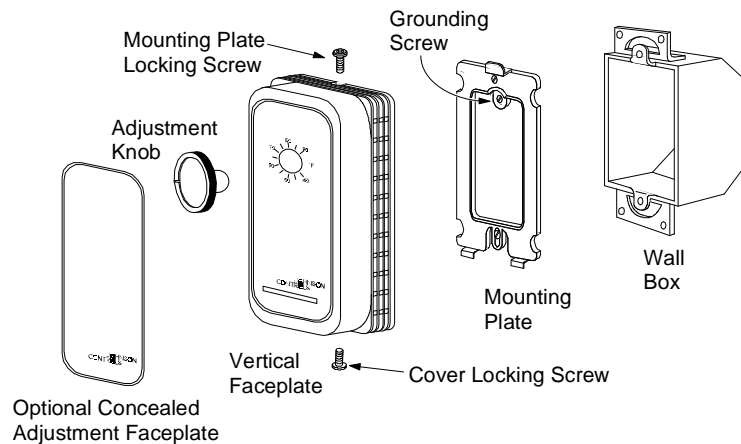

Figure 5: T26 Series Thermostat
3. Remove the mounting plate by loosening the mounting plate locking screw (see Figure 5), and lifting and removing the plate from the base.